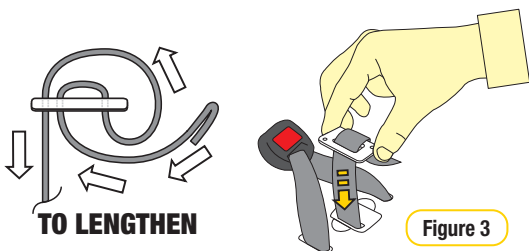

Figure 3
- Step 3:** Grab the central 3 bar plate and lift up to allow access to the 3 bar plate (refer Figure 3).
- To lengthen the buckle 'Push' excess webbing through the central 3 bar plate (refer Figure 3).
- Step 4:** Pull to tighten to remove all the slack, from the upper anchorage strap. Do not overtighten as this could cause the restraint to lift off the vehicle seat (refer Figure 3)